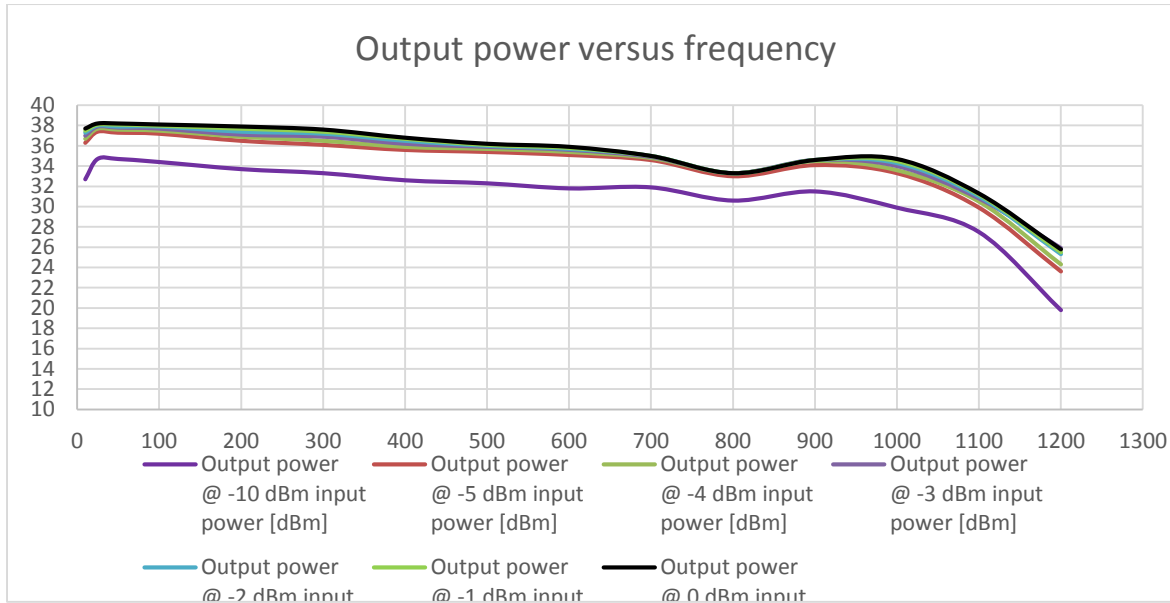

Figure 1 – TBMDA3, output power versus frequency, 3MHz – 1.2GHz
- Comment to the Table 1, 2 and Figure1: Units with serial number above TBMDA318014 have 2dB higher gain, but the same saturated output power (-10dBm input power ->-12dBm input power, etc.)